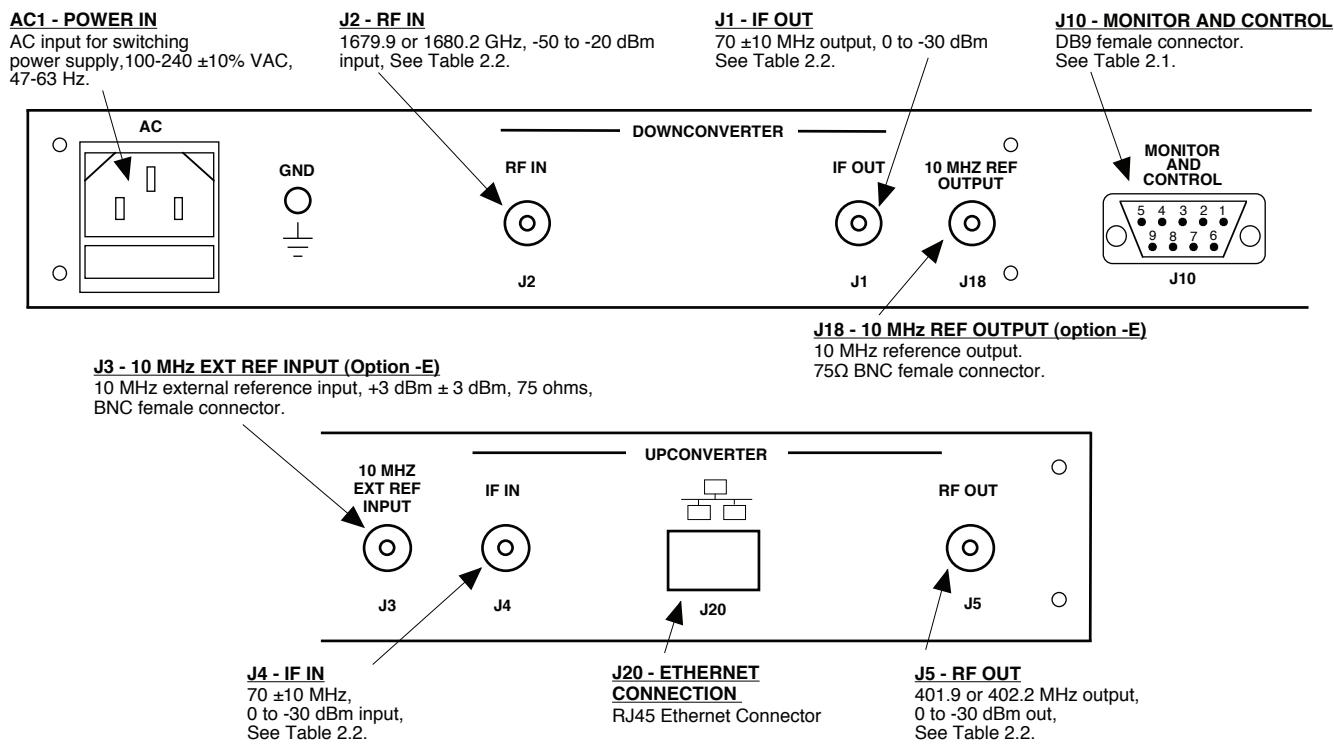

Figure 2.1 Model 2017-0416 Rear Panel I/O's
Figure 2.1 shows the input and output connectors on the rear panel.
- 1.) Connect a 0 dBm to -30 dBm signal to IF In, J4 (Figure 2.1).
- 1.) Connect a -50 dBm to -20 dBm signal to RF In, J2 (Figure 2.1).
When the internal reference mode is selected, the unit's internal 10 MHz reference will become the 'primary' source and the unit's synthesizers will lock to this internal 10 MHz reference. The unit will ignore any external 10 MHz signal present on the external reference input (J3 in figure 2.1). The unit will also buffer the internal 10 MHz signal and provide it on the Reference Out connector (J18 in figure 2.1) at +3 dBm, $\pm$ 3 dB.